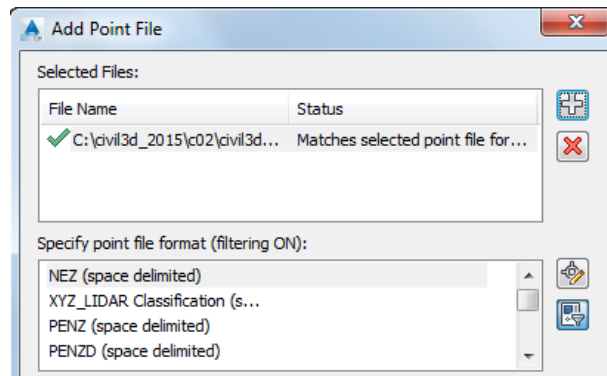

Figure 3-55 Partial view of the **Add Point File** dialog box
3. Choose **Add** from the shortcut menu; the **Add Point File** dialog box is displayed, as shown in Figure 3-55.
6. Browse to the folder *c03* and select *civil3d_2015_c03_tut01- PENZD* text file and choose the **Open** button; the file name and path is displayed in the **Selected Files** list box, refer to Figure 3-55.